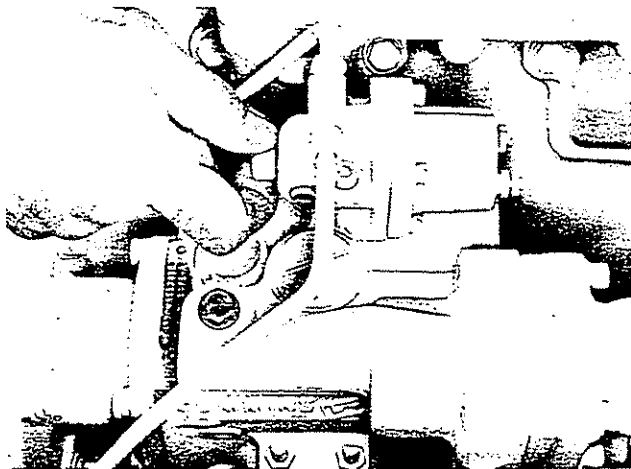

Fig. 1-9, (V21970). Using manual override knob
3. Open the manual fuel shut-down valve, if so equipped. Fig. 1-9. Electric shut-down valves operate as the switch is turned on. A manual override knob provided on the forward end of the electric shut-down valve allows the valve to be opened in case of an electric power failure. To use, turn fully clockwise; return it to the run position after an electric repair.